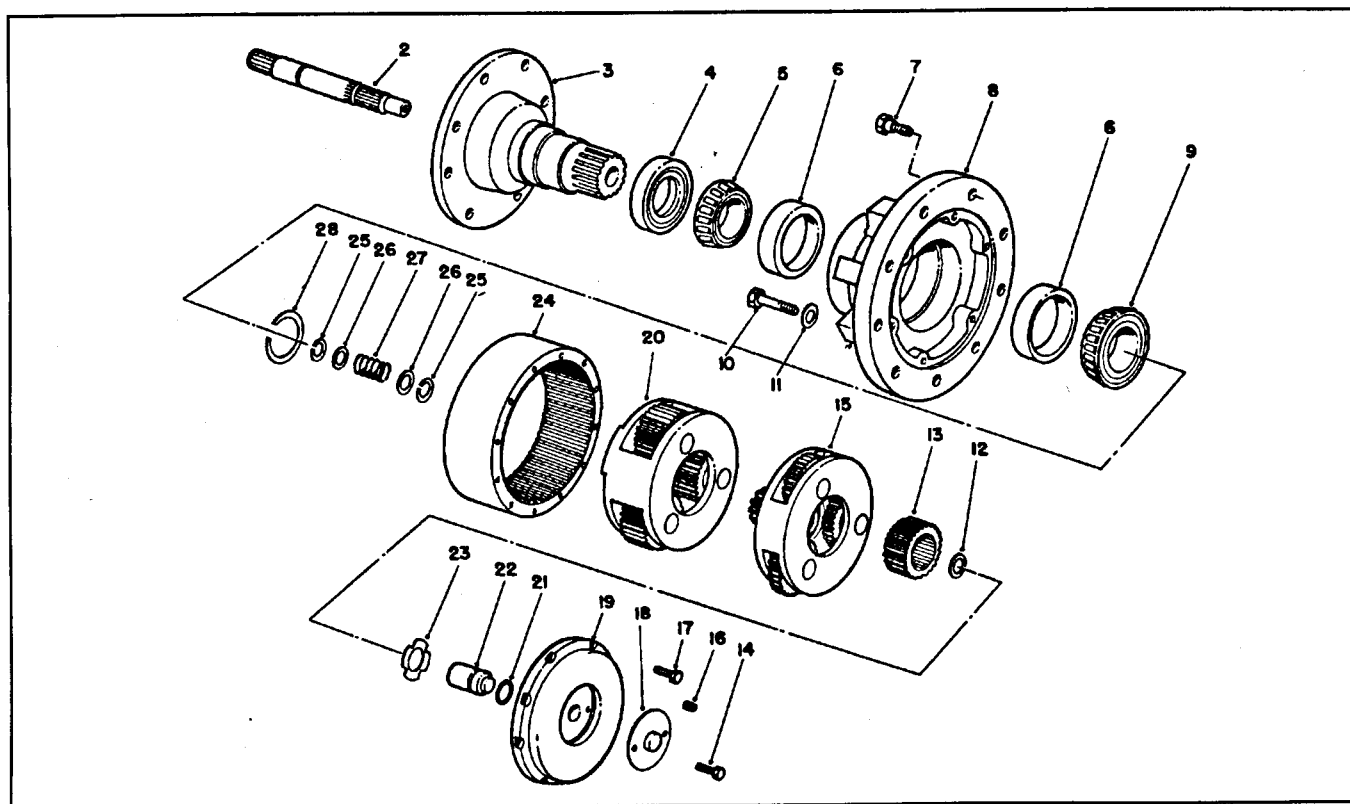

Figure 21
1. Put assembly upright on face of spindle (Fig. 21, Item 3).
2. Remove two (2) bolts (Item 14) and remove disengage cover (Item 18).
3. Remove eight (8) bolts (Item 17) and remove large cover (Item 19). Plunger (Item 22) usually remains with cover. Remove plunger and o-ring (Item 21) from cover on end of input shaft (Item 2).